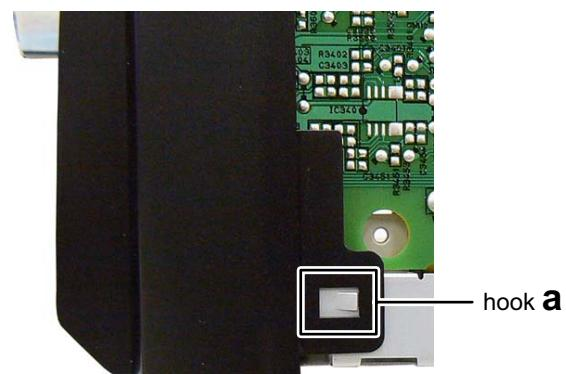

Fig.14
- (4) Disengage two hooks **a** engaged both side of the Front panel. (See Fig.14)